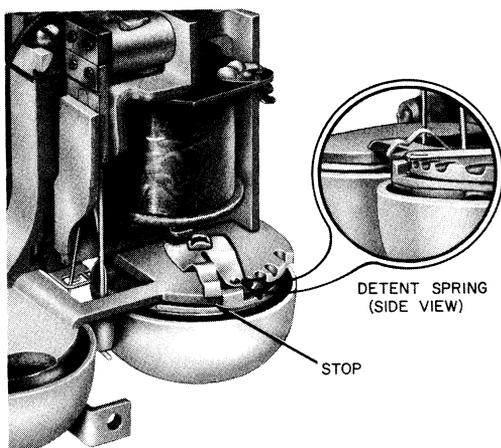

Fig. 5—Ringer Cutoff
**When ringer cutoff feature is requested, bend stop tap up and out to clear stop on ringer frame (see Fig. 5 and 6).**